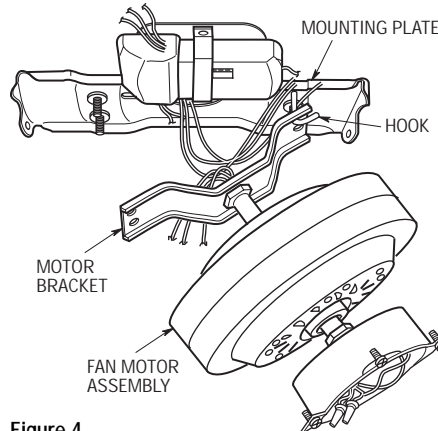

Figure 4
- 4. Carefully lift the fan motor assembly and engage the slot in the motor bracket with the hook on the mounting plate so that it is securely suspended (Figure 4).